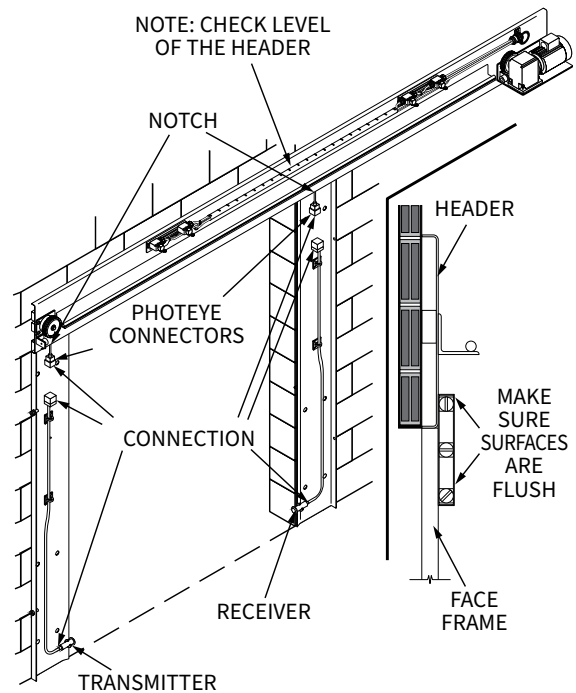

Figure 6: Installing Wall Clips to Opening
2. Route photoeye cables on back of header and through the grommetted keyholes on the bottom edge of the header (Figure 6).
4. Install the face frame cover to the clip and secure with two screws provided (Figure 6).
2. Connect the photoeyes in the side frame to the photoeye cables coming out of the bottom of the header. Use a cable tie to connect the 2 cables (Figure 6).